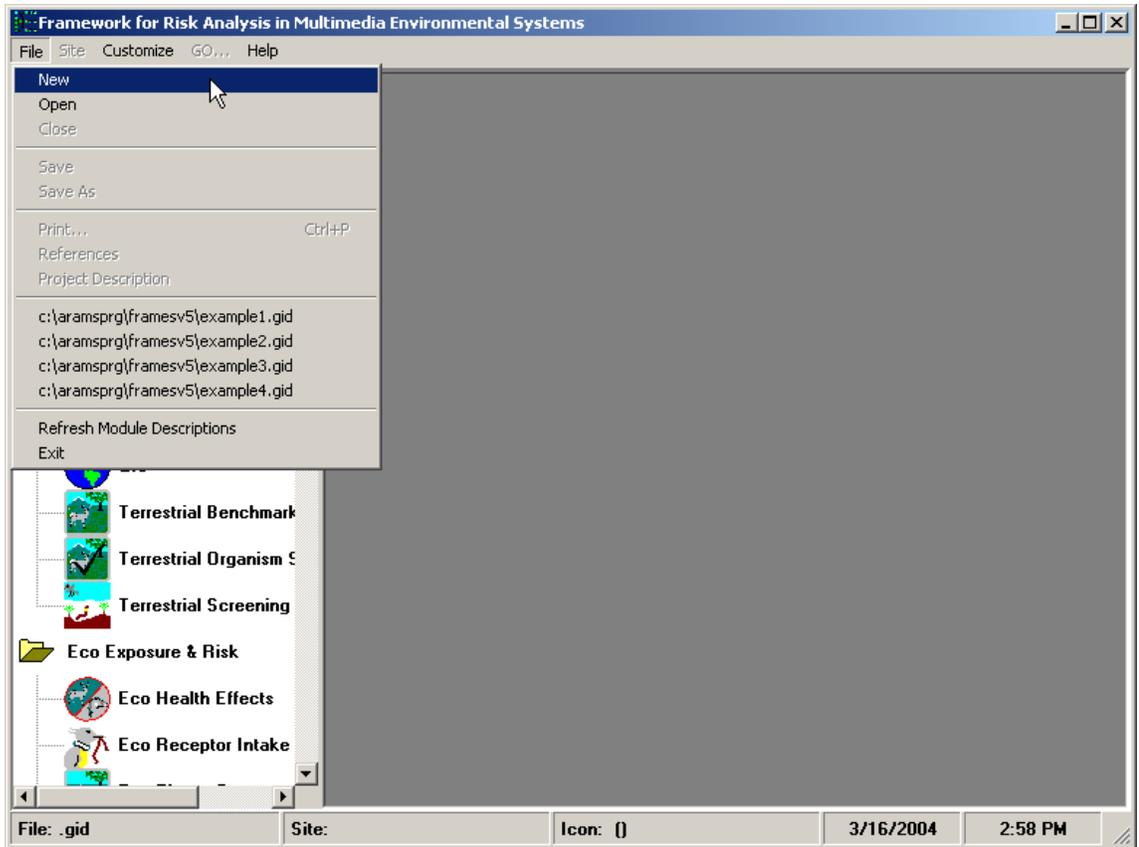

Figure 2. Opening a new file
- While ARAMS/FRAMES is running, click “File” and choose “New” and a window titled “Global Input Data Open New” will appear (see Figure 2). In the “File Name” box, type the project name (type: “Sample4” maximum of eight characters) and click “Open” (see Figure 3). **Do not name the new file “Example4” because it will write over the existing “Example4” file that was distributed with the tutorial.** A window titled “Create New Site” will appear. Type the project site name (type: Scenario 1) and click “OK” (see Figure 4).